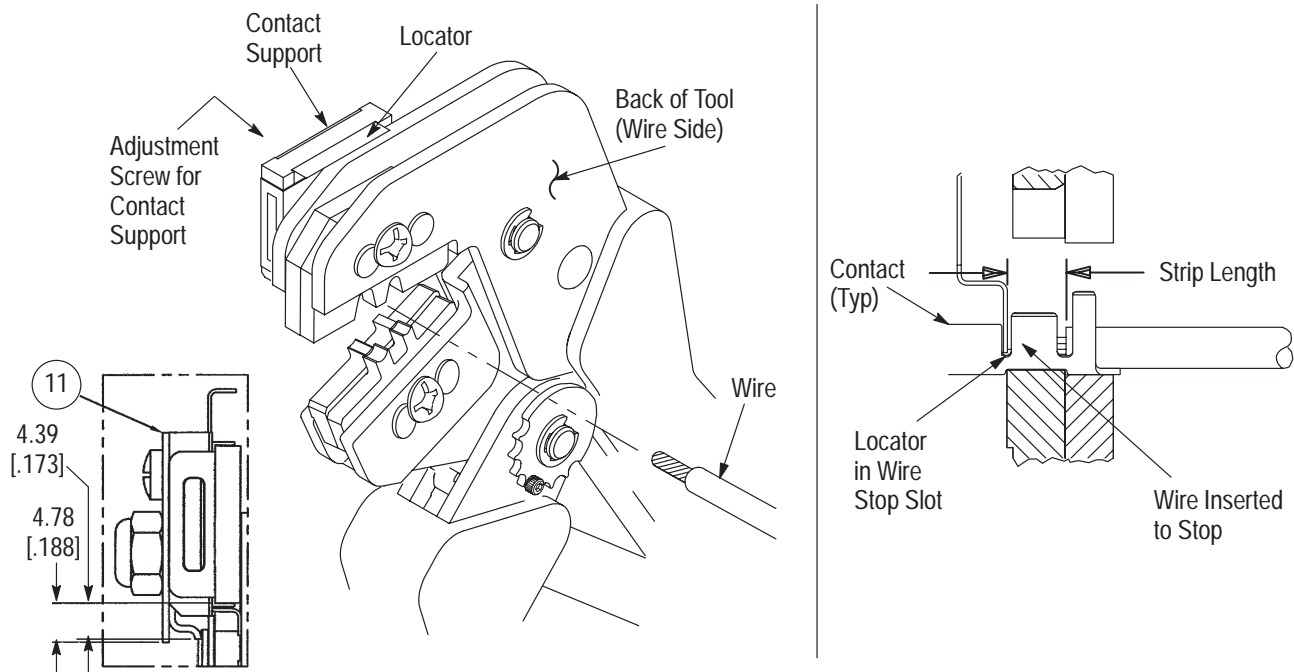

Figure 3
**4. CONTACT SUPPORT ADJUSTMENT** (Figure 3)
Refer to the table in Figure 1 and select wire of the specified size and insulation diameter. Strip the wire to the length indicated in Figure 1, taking care not to nick or cut wire strands. Select an applicable contact and identify the appropriate crimp section according to the wire size markings on the tool. Refer to Figure 3 and proceed as follows:
3. Position the contact so that the mating end of the contact is on the locator side of the tool, and so that the open “U” of the wire and insulation barrels face the top of the tool. Place the contact up into the nest so that the movable locator drops into the slot in the contact. Refer to Figure 3. Butt the front end of the wire barrel against the movable locator.
5. Insert stripped wire into contact insulation and wire barrels until it is butted against the wire stop, as shown in Figure 3.
*The crimped contact may stick in the crimping area, but the contact can be easily removed by pushing downward on the top of the locator (see Figure 3).*